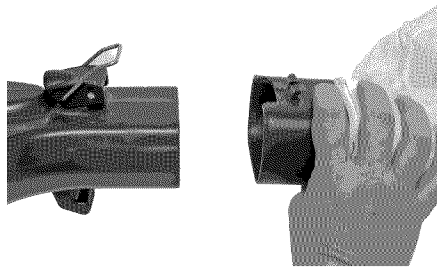
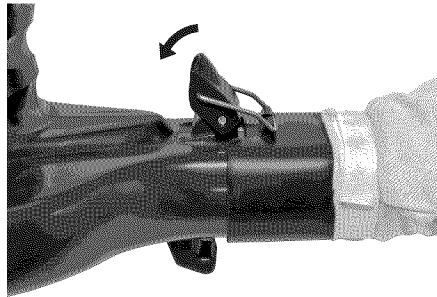

Figure 3-6: Sliding vacuum tube adapter into place
Figure 3-7: Connect draw latch to vacuum bag adapter
2. Slide vacuum tube adapter onto outlet on front of blower/vac housing (see Figure 3-6). Securely connect the draw latch to the vacuum bag adapter (see Figure 3-7).